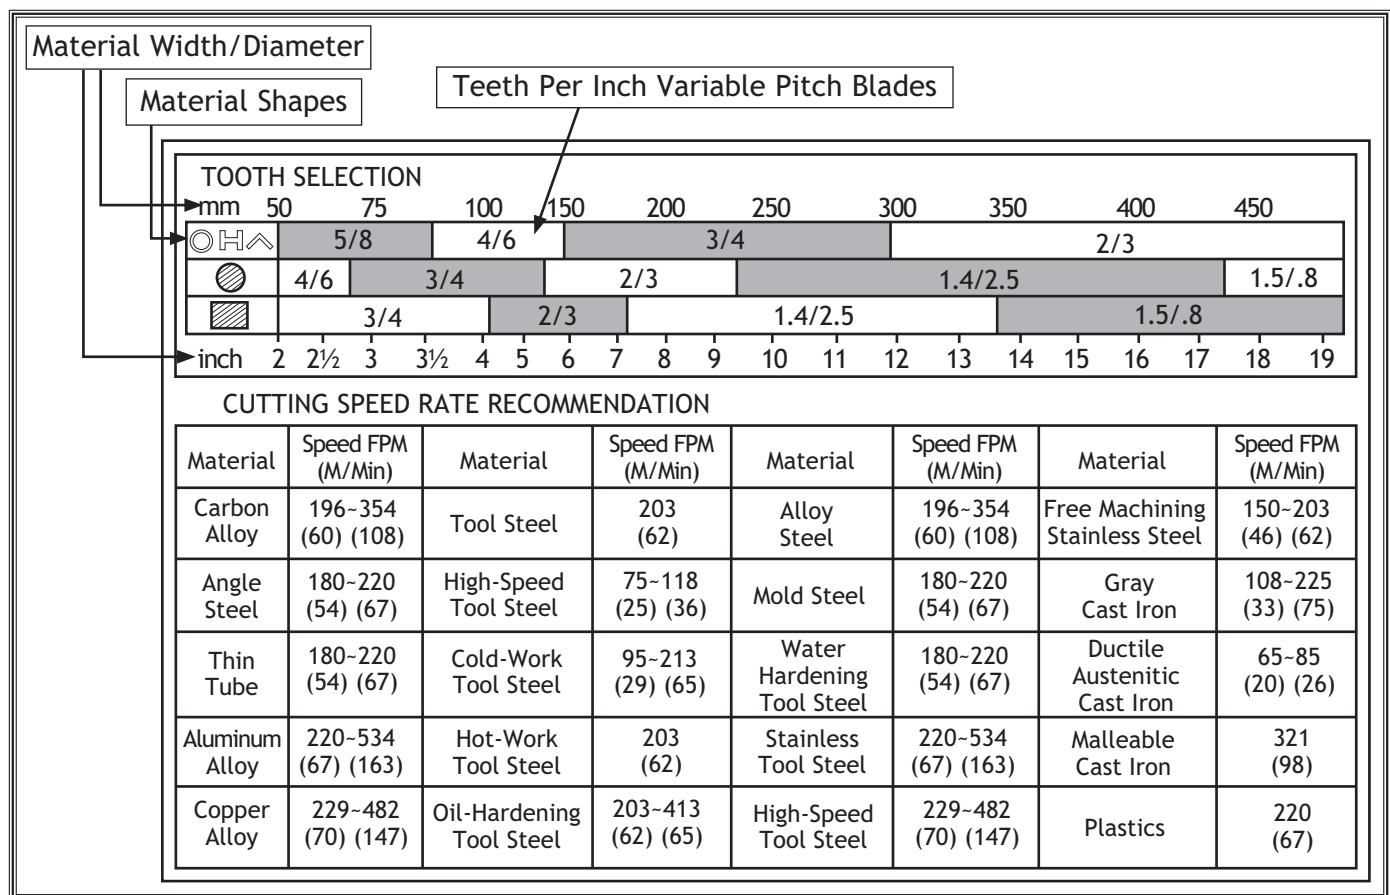

Figure 46. Blade selection and speed chart.
2. Refer to the "Material Width/Diameter" row of the blade selection chart in **Figure 46** and read across to find the workpiece thickness you need to cut.